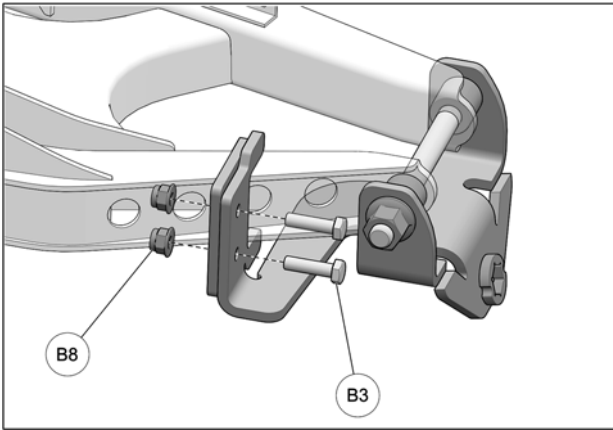

Fig. 10
10. Secure spacer plate to bracket using M8 bolts (B3) and nuts (B8). Hand-tighten nuts. See Fig. 10